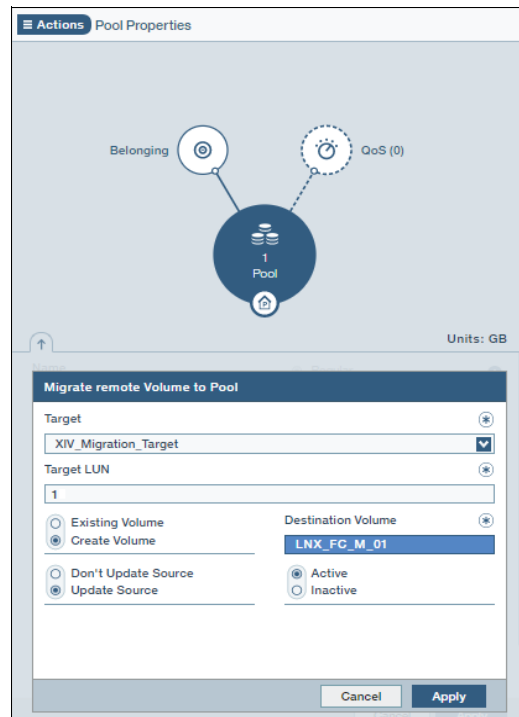

Figure 8-43 Creating migration volumes in IBM FlashSystem A9000
- Select the settings for the following entries, as shown in Figure 8-43: